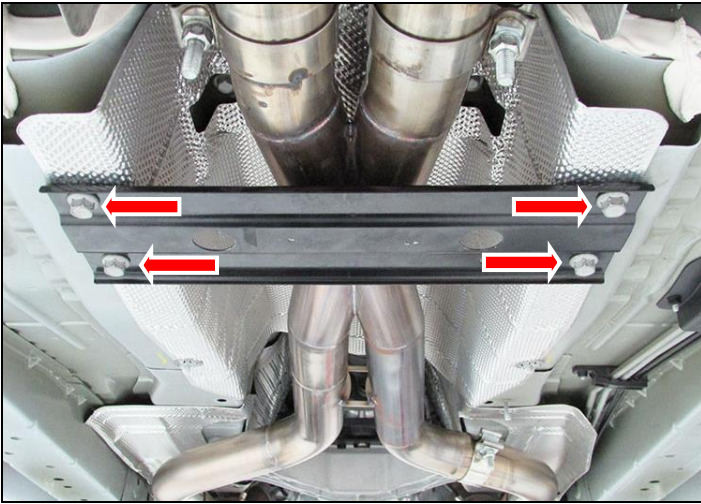

Figure 1
3. From under the vehicle, remove (x4) 15mm head bolts securing the center cross brace to the chassis (**Figure 1**).